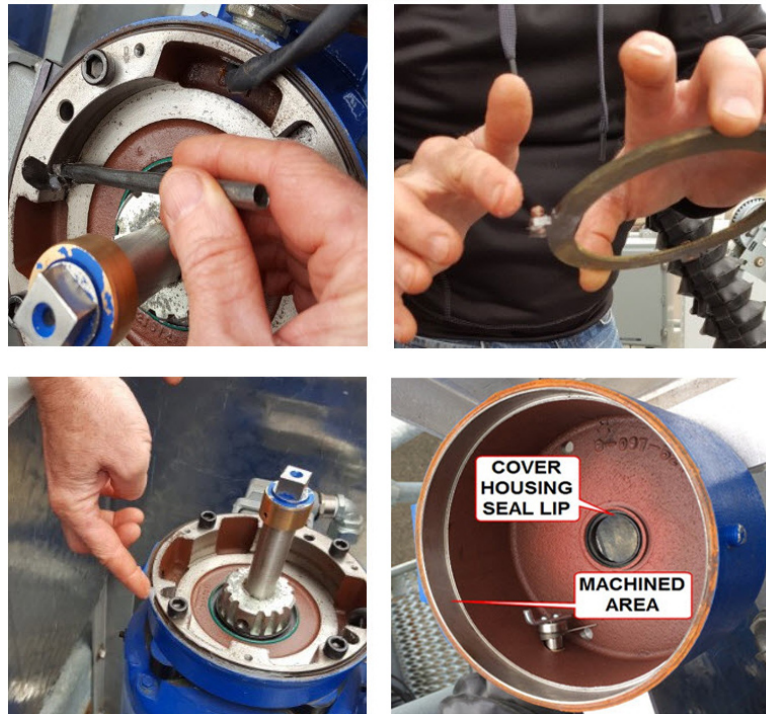

Figure 4-10: Applying Silicone Grease
12. Once all surface rust has been cleaned and deactivated, apply silicon grease to the sides of the tabbed brake discs and housing slot walls (grooves). There are 4 areas that need to have the silicone grease applied (see Figure 4-10):